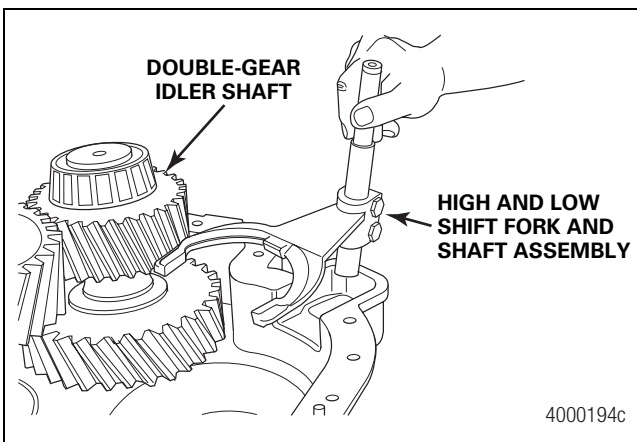

Figure 4.18
8. Remove the high and low shift fork, shift shaft and clutch collar from the front case. Figure 4.18.